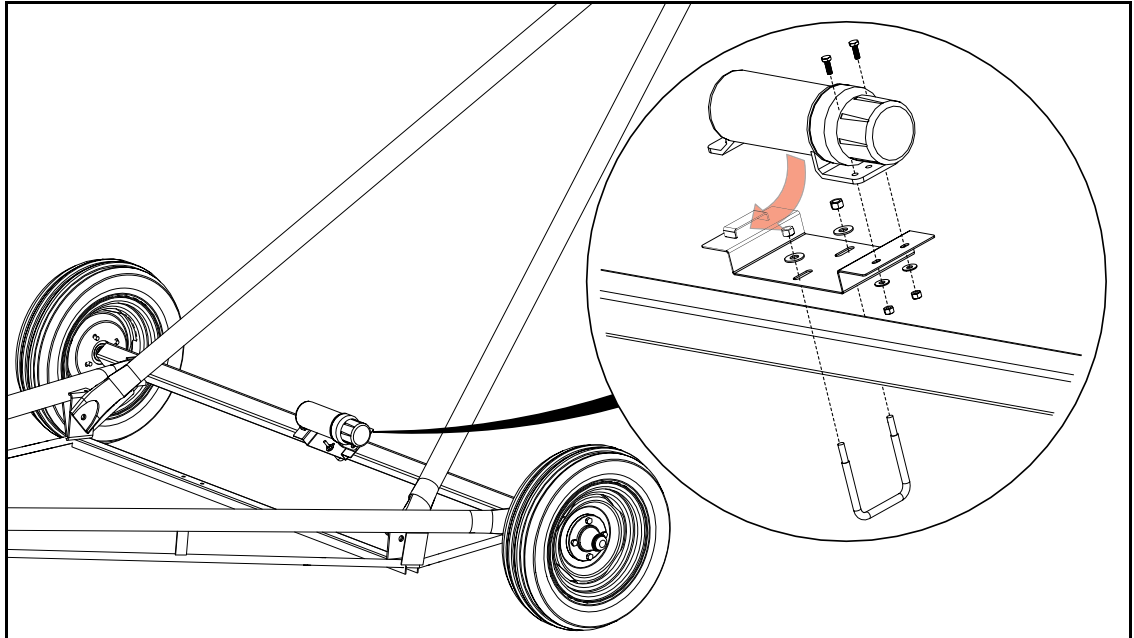

Figure 3.36
- ➔ 1. For WR60 x 61', WR80 x 56'-71, and WR100 x 51'-71' auger models: Attach the manual container bracket to the top of the axle, centered between the two wheels, using a 3/8" x 3-1/16" square U-bolt, two 3/8" washers, and two 3/8" locknuts (see Figure 3.36).